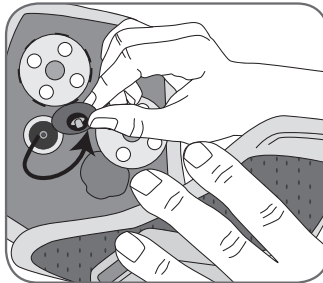

Figure 9-7: Unsnapping the L300 electrode bases.
2. Unsnap the L300 electrode bases from the plug holes. See Figure 9-7.